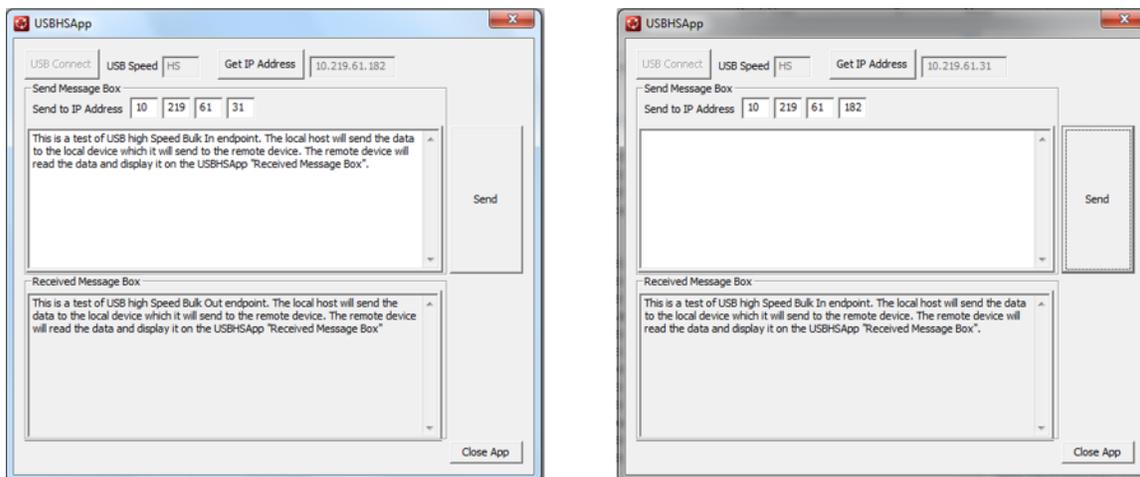

Figure 25. Send Message From Remote to Local Host
- To send messages from the remote host to the local host, enter the IP address of the local host in the USBHSAApp of the remote host. Now type the message in the *Send Message Box*, and click the *Send* button. The message will be shown in the *Received Message Box* of the USBHSAApp running on the local device (see Figure 25).